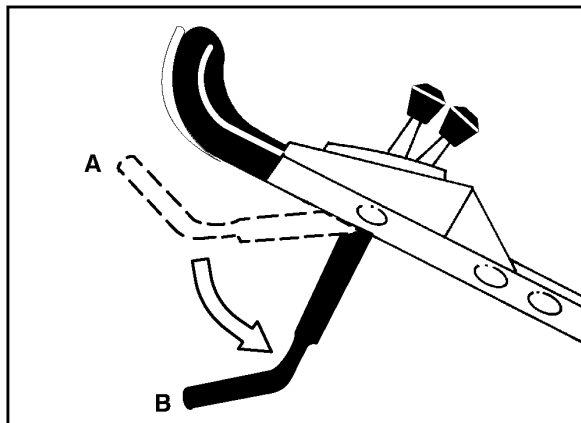

Figure 1
2. Push the black control bar down to its lowest position (Fig. 1, position B).